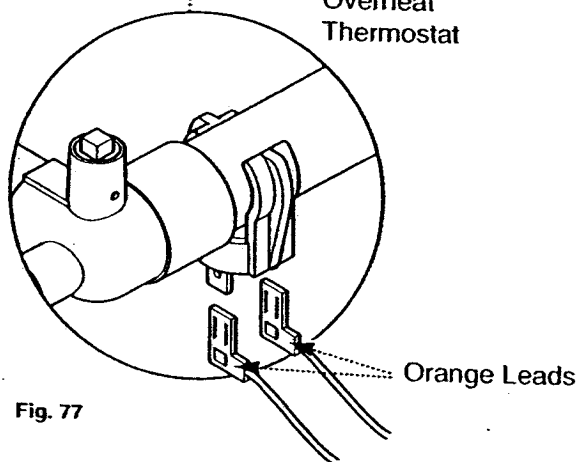

Fig. 77
7. Connect the two electrical tags from the wiring harness to the terminals on the overheat thermostat (Fig. 77) - either wire can be connected onto either terminal - there is no polarity.